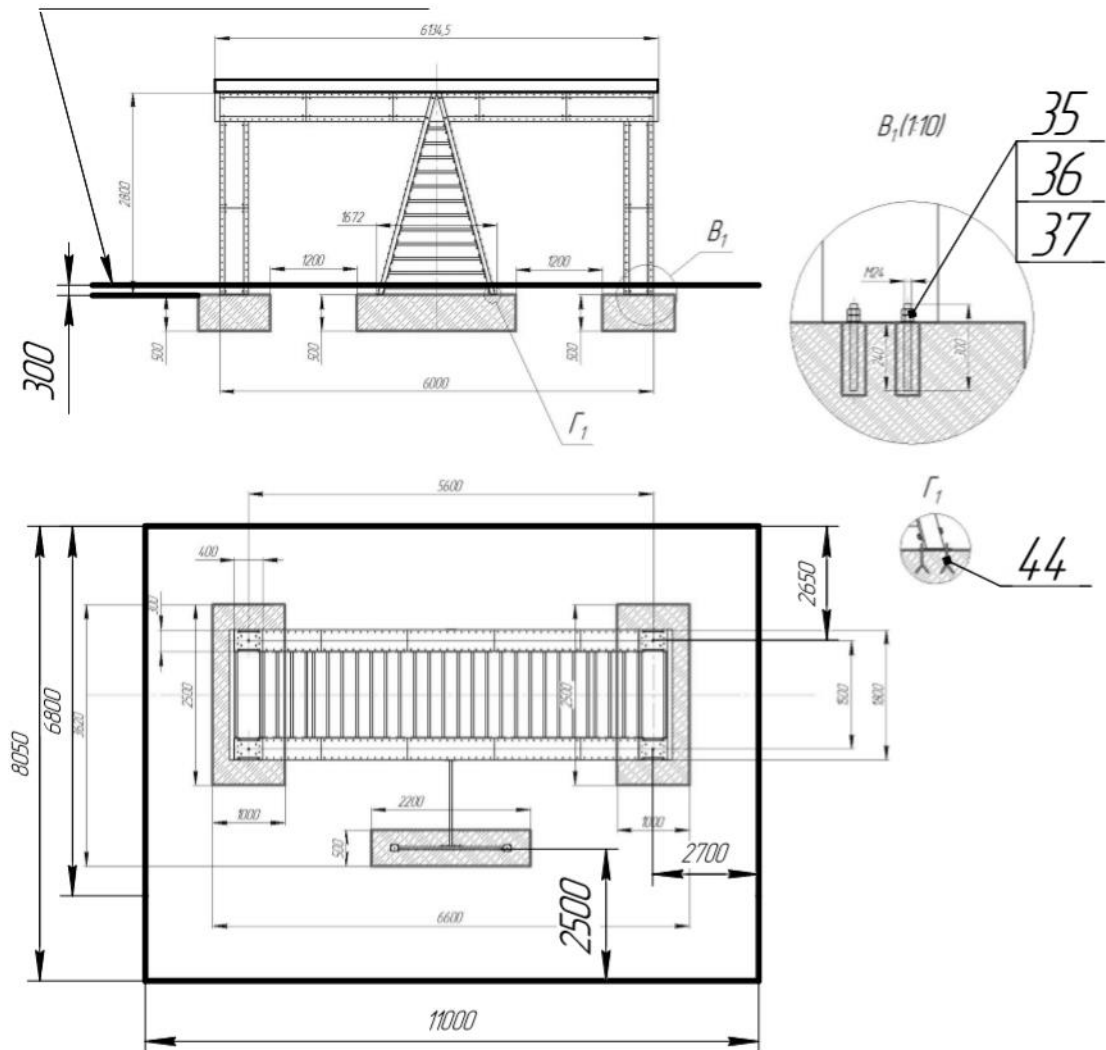
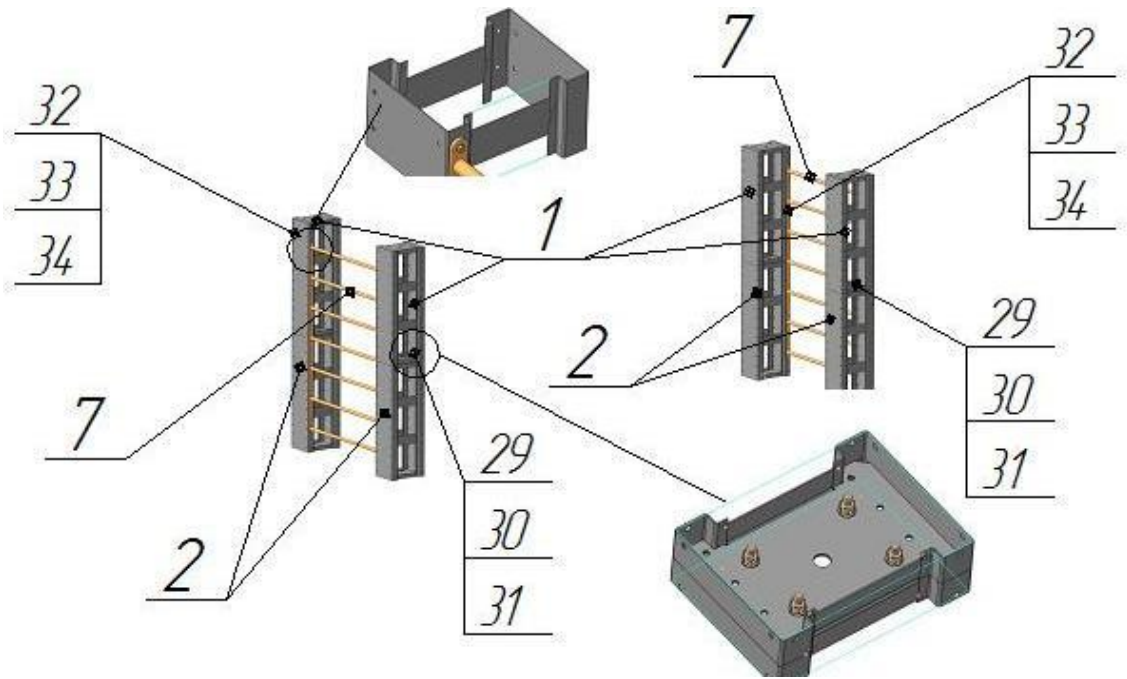
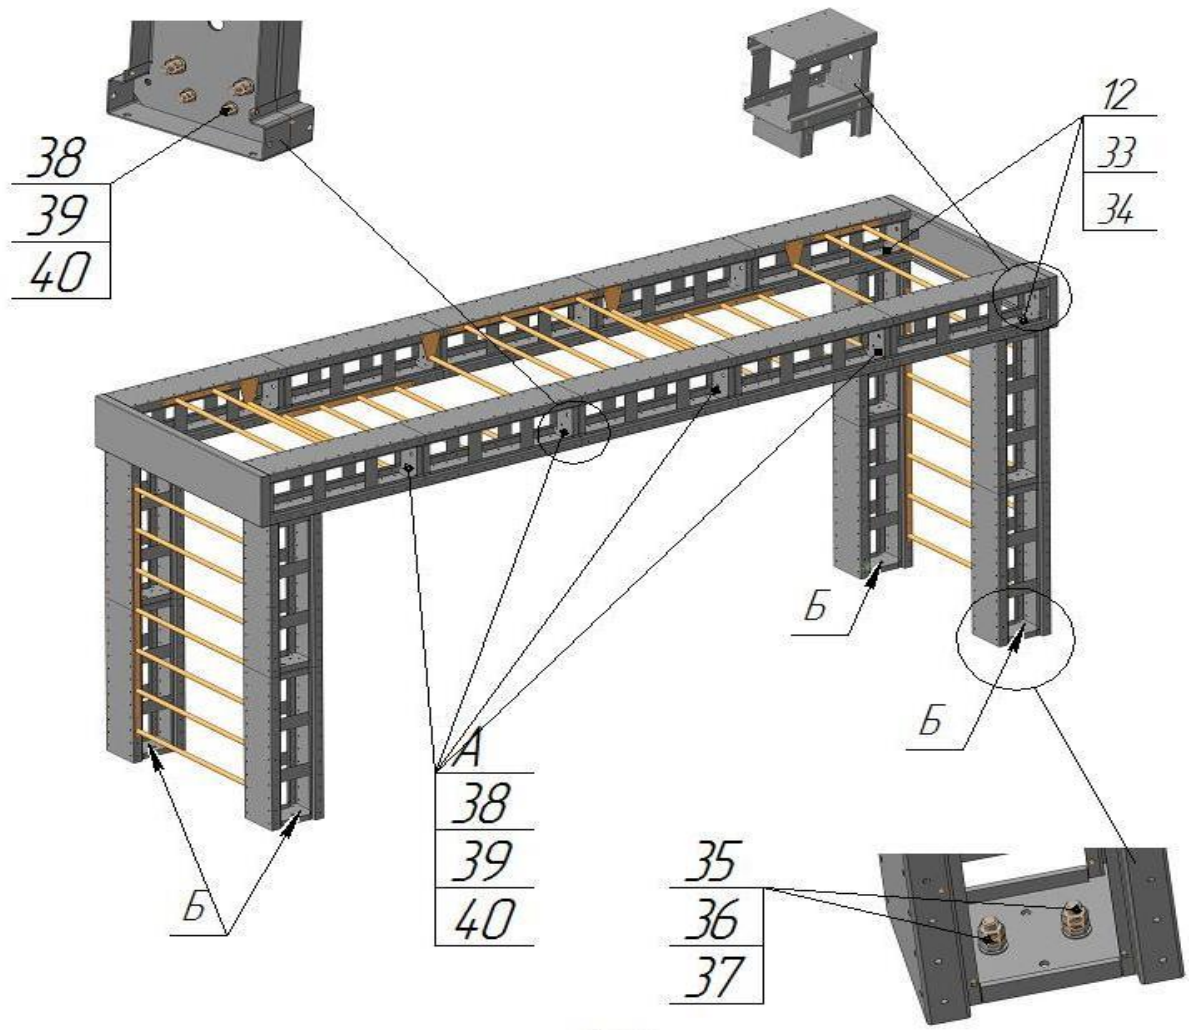
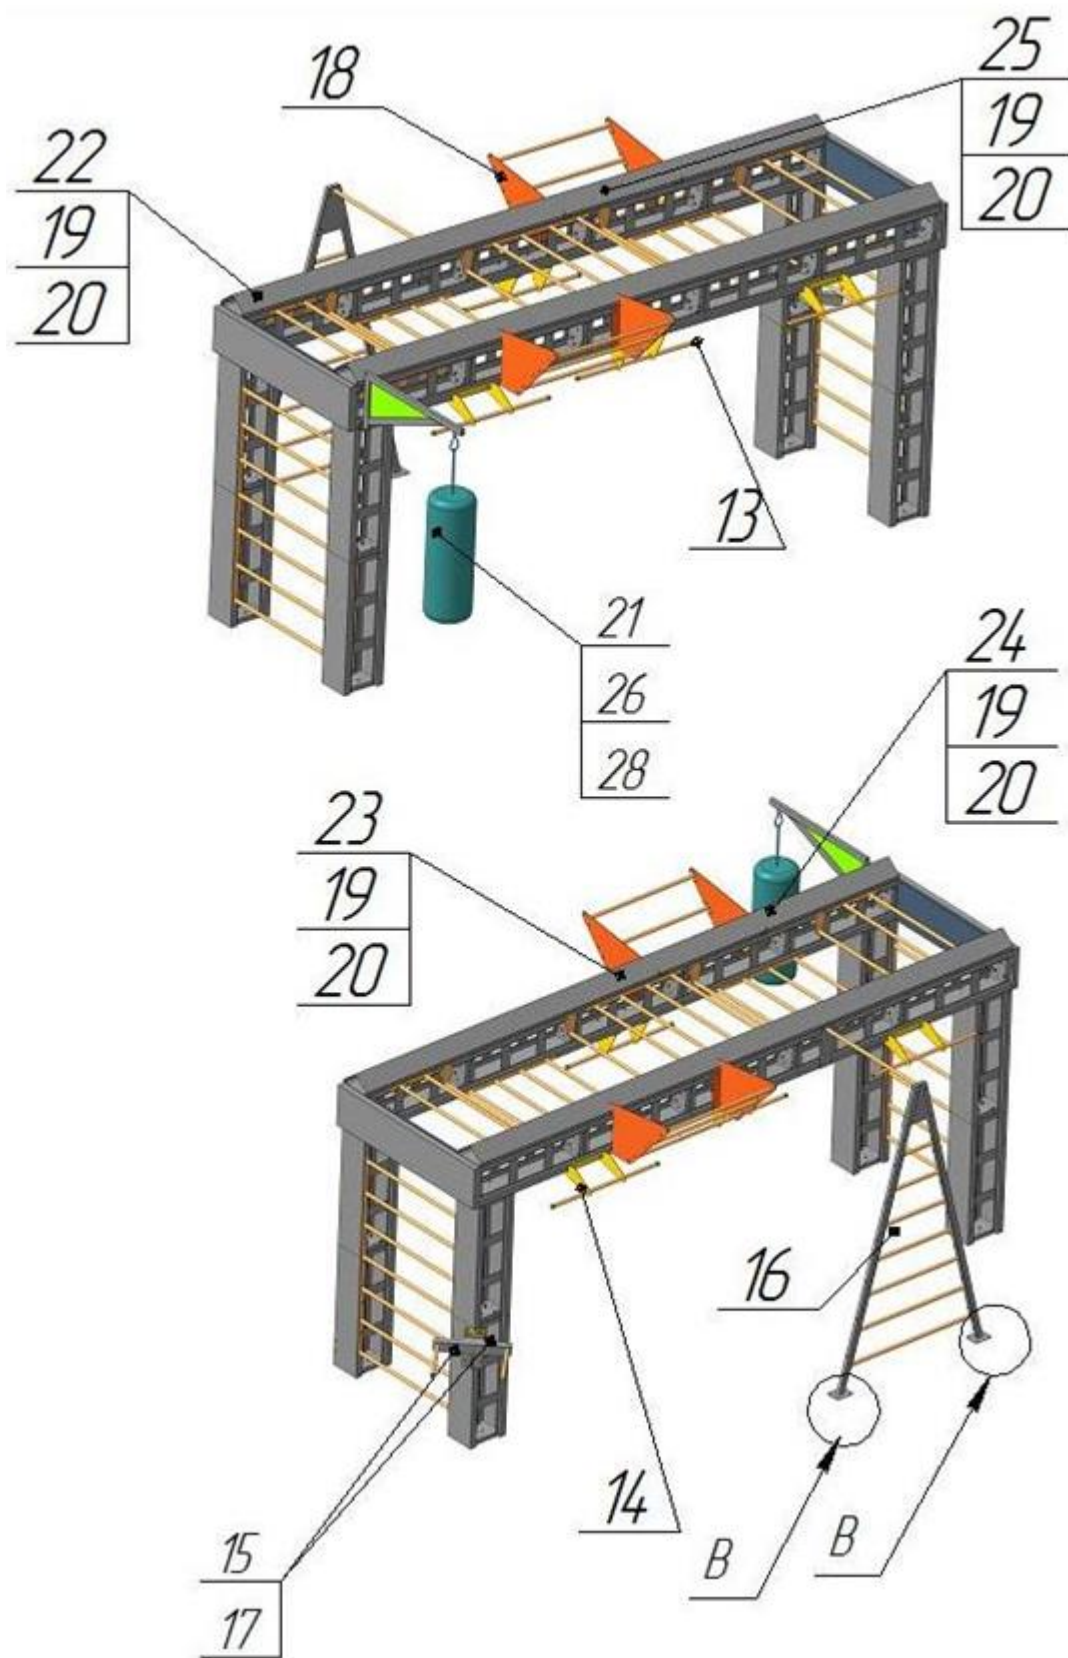

Fig. 1
Fig. 2
Fig. 4
Fig. 5
- 3.2 Install on prepared concrete surfacing according to the scheme Fig.1 with the use of anchored reinforcements № 35, 36, 37, 44. Concrete grade used in the manufacture of concrete surfacing should be at least M250.
3.5 Assemble the side panels, see fig.2 consisting of assembly units № 1, 2, 7 (see table 2) and metal items № 32, 33, 34, № 29, 30, 31. Do not tighten the threaded connections. Install vertically on prepared concrete pads according to fig.1
3.7 Using lifting-transport device install the upper part of complex on the previously assembled side panels, see fig. 4 and fix it with the help of metal hardware № 12, 33, 34. Perform a final tightening of all threaded connections 25...30H\*m. Additionally in places "A" install bolted connections № 38, 39, 40.
- 3.8 In places "Б" with the help of anchor connections №34 and metal hardware № 35, 36, see Fig.4 and Fig.1 secure the construction to the prepared concrete surfacing.
- 3.9 Install the equipment included in delivery according to Fig.5
- 3.10 In places "B" (fig.5) with the help of anchors № 44 secure assembly units №15 to the prepared concrete pads (fig.1)